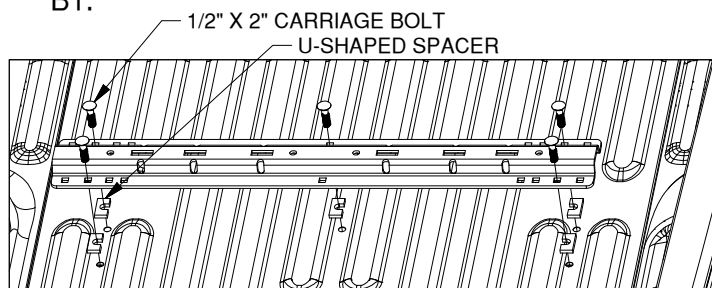

Figure B1: View looking into truck bed from rear of truck.
1. **Position the forward mounting rail.** Re-position the forward mounting rail over the drilled 9/16" holes in the bed. Place a 1/2" x 2" carriage bolt through the mounting rail and into each of the 5 drilled locations. Place a U-shaped spacer between the bed and the mounting rail at the five drilled positions, see Figure B1.